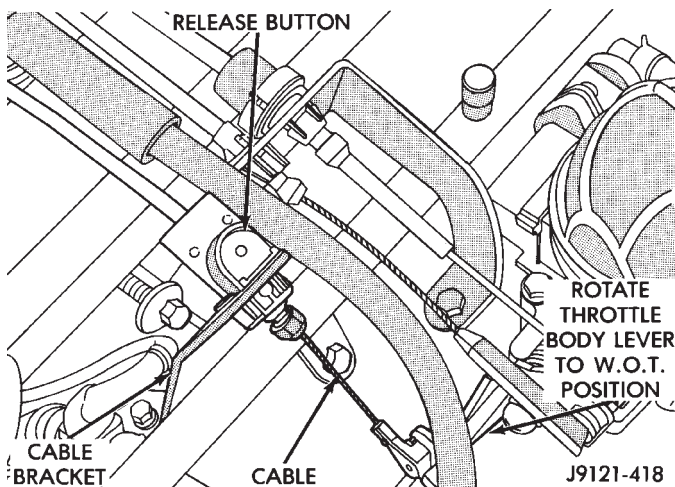

Fig. 45 Throttle Cable Adjustment
(3) Push cable conduit back into cable sheath as far as possible (Fig. 45).
(4) Rotate lever on throttle body to wide open throttle position. Cable will ratchet to correct adjustment point as lever is rotated (Fig. 45).